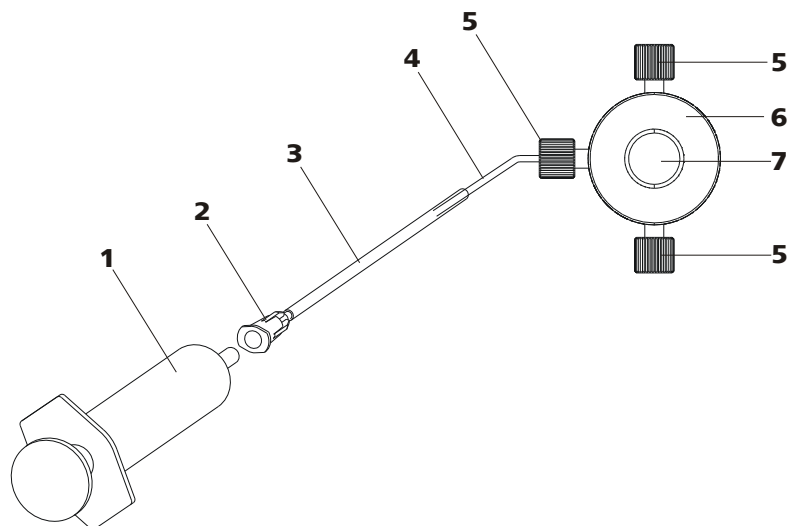

Figure 20 Deaerating the high pressure pump
Deaerate the high pressure pump as follows (see *Figure 20, page 40*):
- Insert syringe (20-**1**) in the Luer connector (20-**2**) of the purging needle (see Figure 20, page 40).